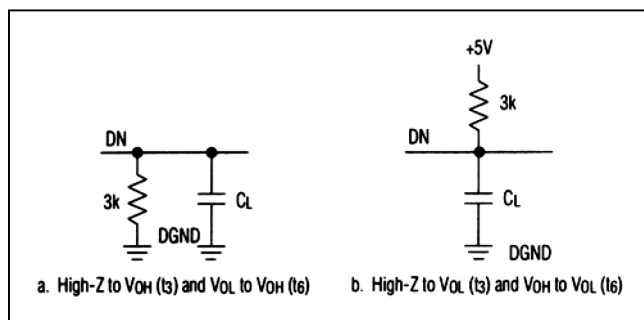

Figure 1. Load Circuits for Access Time
**Note 4:**  $t_3$  and  $t_6$  are measured with the load circuits of Figure 1 and defined as the time required for an output to cross +0.8V or +2.4V.